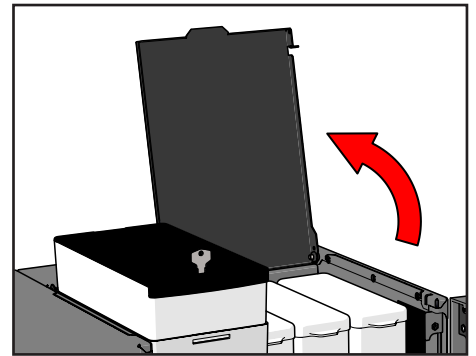

Figure 48. Open the top cover
3. Open the top cover (see Figure 48).